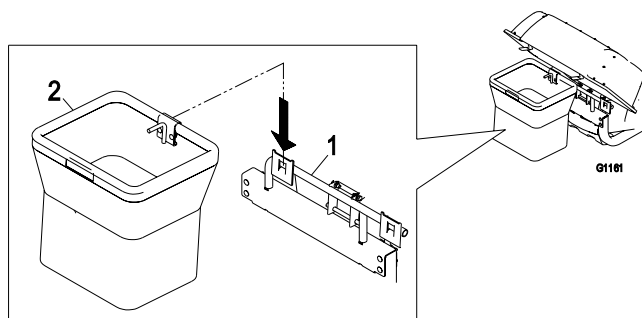

Figure 12
4. Install the bags by sliding the bag frame hooks onto the retaining brackets (Figure 12).
4. Open the hood and remove the two bags from the bag frame hooks (Figure 12).